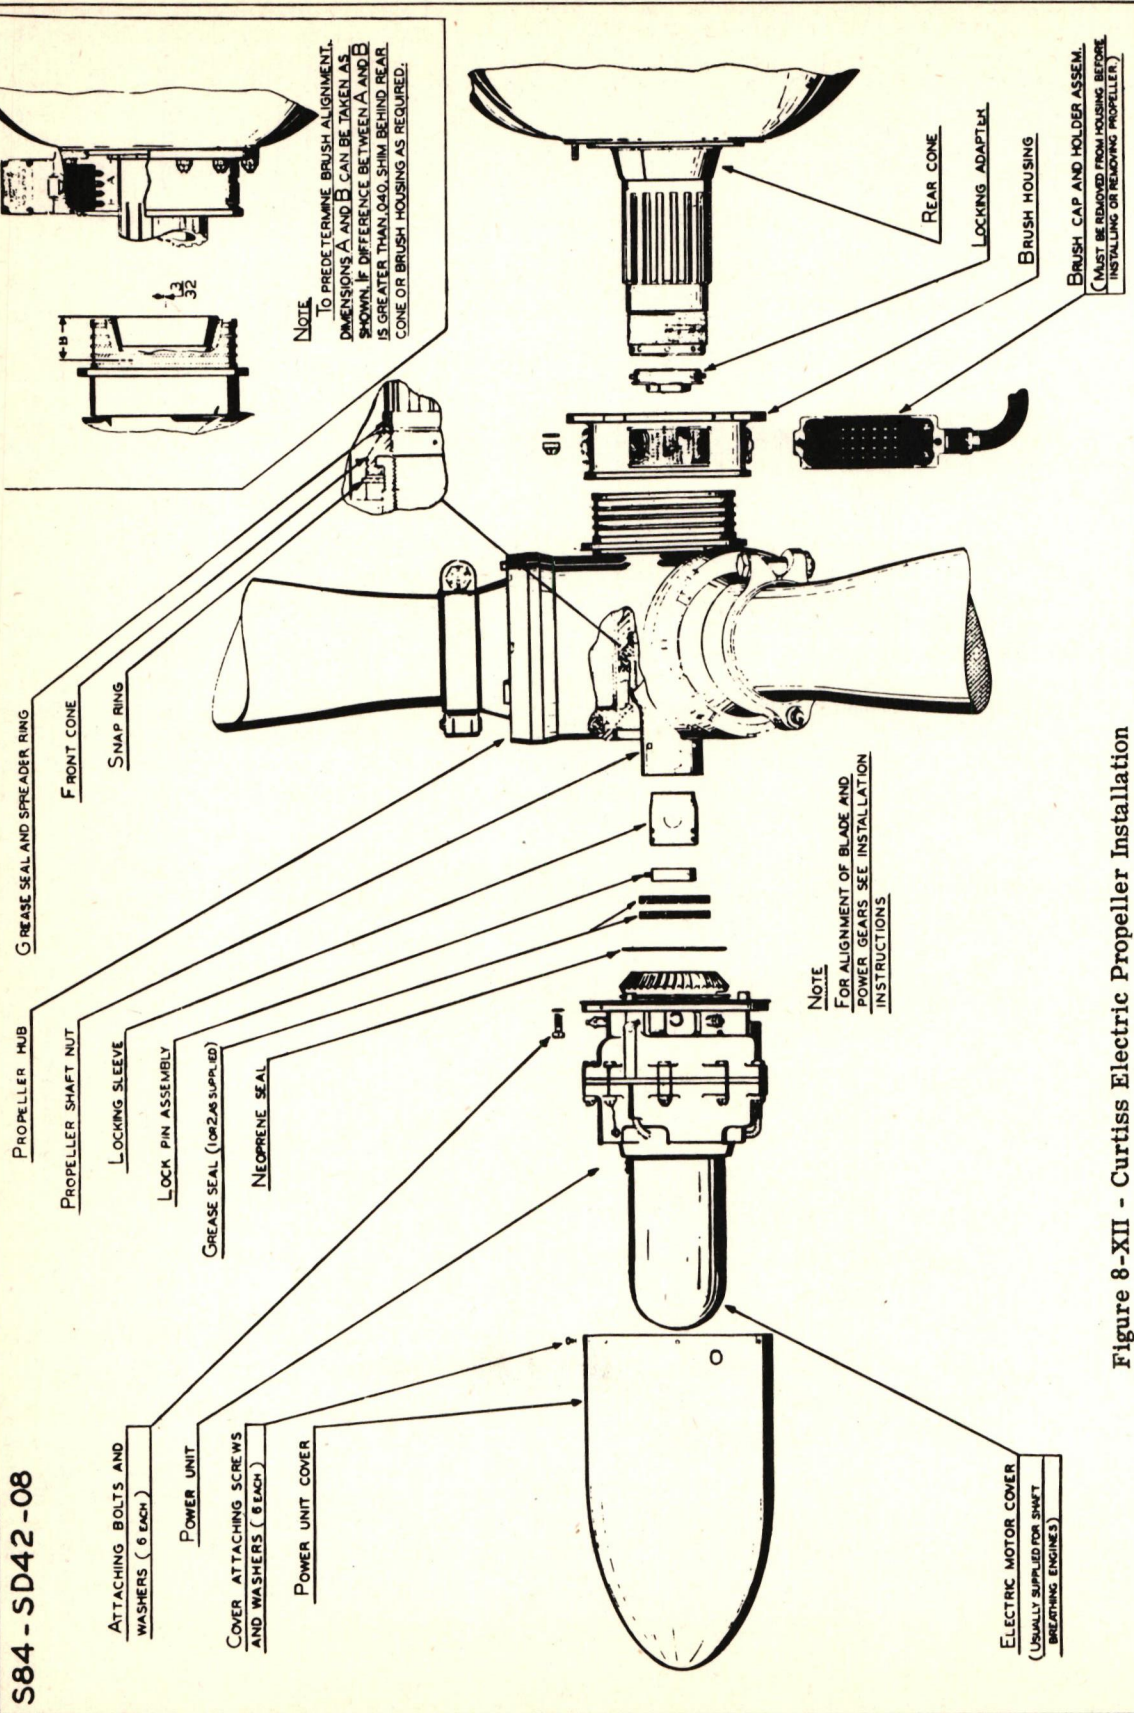

Figure 8-XII - Curtiss Electric Propeller Installation
(3) In order to predetermine the location of the brush contact on the slip rings, it is necessary to take the following measurements. Measure the distance "A" between the face of the thrust nut and the center of the forward brush, and the distance "B" between the center of the front slip ring and the rear cone, with the rear cone being held firmly in the hub. If the difference between the two measurements is greater than .040 inch, shim behind the rear cone or the brush housing as required. For distances "A" and "B," refer to figure 8-XII, "Installation."
(4) Install the rear cone on the shaft.
(5) Place the propeller shaft locking adapter in the end of the shaft.
(6) Rotate each blade until the gear teeth are down behind the bulkhead of the hub, to allow enough clearance for the front cone and nut to be installed.
(7) Clean thoroughly and coat the threads of the propeller shaft and propeller shaft nut with a mixture of 70 percent white lead and 30 percent lubricating oil by volume. Apply a light coating of engine lubricating oil to the splines. The rear cone should be left dry.
(8) To avoid damaging the propeller shaft threads while installing the propeller, it is desirable to use a thread protector. Proceed as follows: